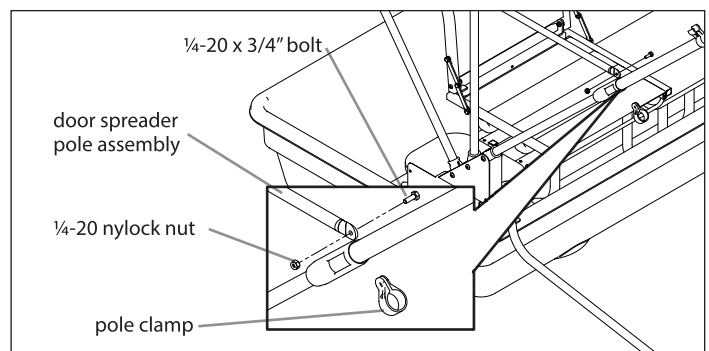

FIGURE 14
20. Attach the remaining front side spreaders (15700) to the front upper cross brace. Assembly is similar to previous assembly at Step 17. Once both spreader poles are in place clip them to the middle upper cross brace. This will complete the spreader pole installation. **SEE FIGURE 14**